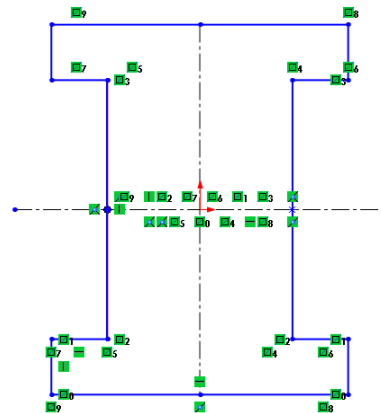

Figure 3-64 Sketch after mirroring sketched entities
- Mirror the entire sketch along the second mirror line, refer to Figure 3-64.
3. Choose the **Mirror Entities** tool from the **Sketch CommandManager**; the entire sketch is mirrored about the horizontal centerline. The sketch after mirroring the sketched entities is shown in Figure 3-64.